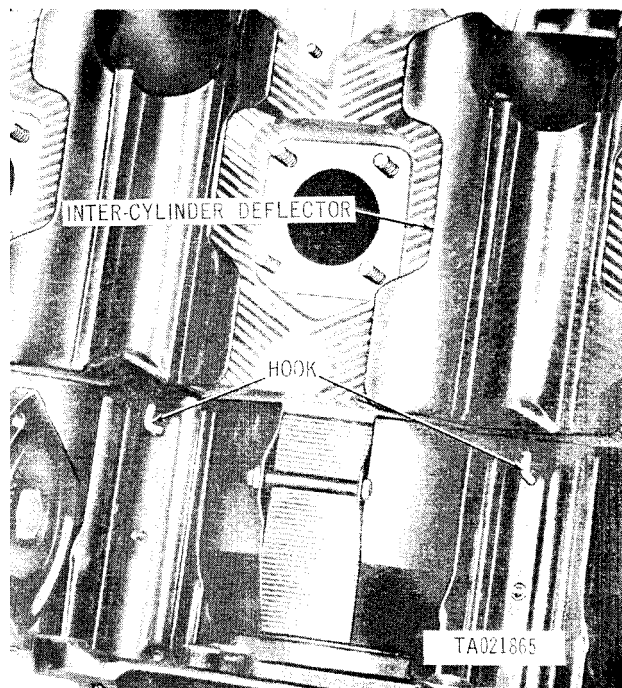

Figure 3-61. Removing or installing right inter-cylinder deflectors and hooks.
d. Remove five inter-cylinder deflector hooks (fig. 3-61) and remove five right inter-cylinder deflectors. Remove left inter-cylinder deflector hooks and deflectors in the same manner.